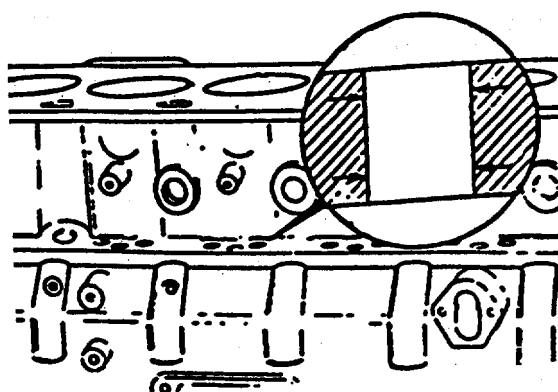

FIGURE 4-83. Inspecting Tappet Bores.
- g. Using a universal bushing installation tube, drive the cam bushing from the cylinder block. Inspect the tappet bores for scoring or excessive wear (FIGURE 4-83).